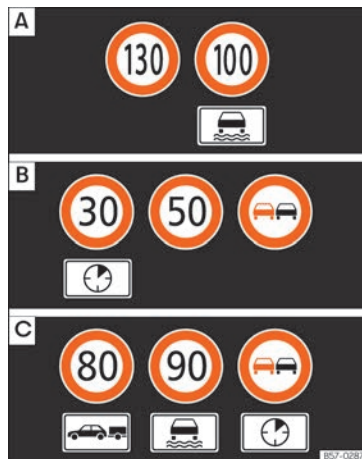

Fig. 56 On the instrument panel display: examples of speed limits or overtaking prohibitions with their respective additional signs.
The traffic signs detected by the system are displayed on the dash panel display » **Fig. 56** and, depending on the navigation system fitted in the vehicle, on the infotainment system as well » **page 84**.
When the traffic sign detection system is connected, a camera located on the base of the interior rear-view mirror records the traffic signs in front of the vehicle. After checking and evaluating the information from the camera, the navigation system and the current vehicle data, up to three valid road signs are displayed, »» **Fig. 56 [B]** with their additional signs.
- **First:** The sign that is currently valid for the driver is shown in the left side of the screen. For example, a maximum speed limit of **130 km/h (100 mph)** »» **Fig. 56 [A]**.
- **Third:** A sign valid only with restrictions, e.g. No overtaking at certain times, will be displayed in third place »» **Fig. 56 [C]**.